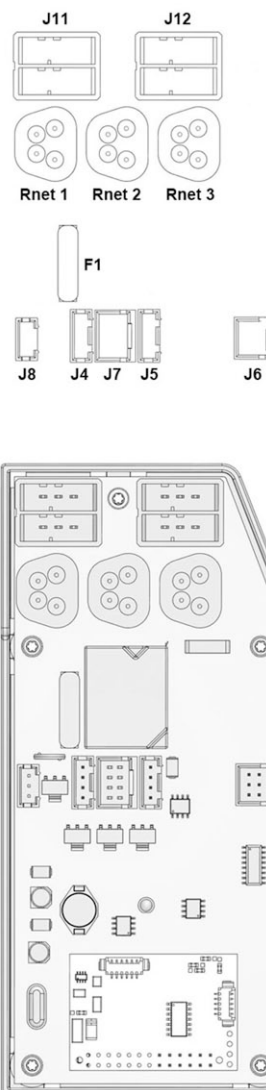

Figure 157. ICS Master Module.
5. Disconnect the electrical connections of the ICS Master Module, being attentive to their placement. See fig. 157.
7. If the wheelchair is equipped with lights, remove the lid from the ICS Master Module and disconnect the lights cabling from the contacts on the circuit board. See fig. 157.
3. Reconnect the electrical connections of the ICS Master Module, being attentive to their placement. See fig. 157. See also the sticker on the lid.